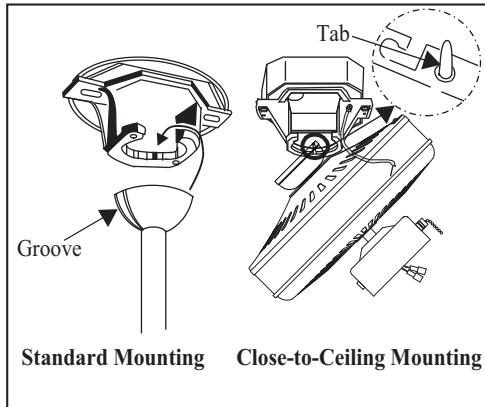

Figure 11
4. Carefully lift the fan assembly up to the ceiling mounting bracket and hang the fan on the tab provided by utilizing one of the holes at the outer rim of the ceiling canopy. (Figure 11) If use standard mounting, seat the hanger ball in the mounting bracket socket. Make sure the tab on the mounting bracket socket is properly seated in the groove in the hanger ball. (Figure 11)
THE TAB AS SHOWN IN FIGURE 11 IS ONLY TO BALANCE THE FAN WHILE ATTACHING WIRING. FAILURE TO HANG AS SHOWN IN FIGURE 11 MAY RESULT IN TAB BREAKING CAUSING THE FAN TO FALL. TAB MUST PASS FROM INSIDE TO OUTSIDE OF CANOPY.